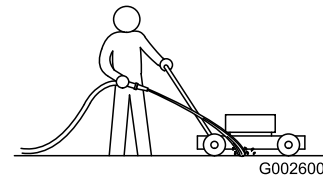

Figure 52
1. With the engine running on a flat paved surface, spray a stream of water in front of the **right** rear wheel (Figure 52).